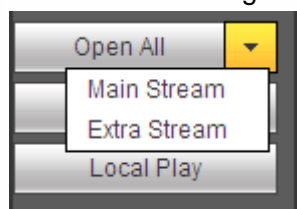

Figure 7-4
- Section 3: Open all. Open all button is to enable/disable all-channel real-time monitor. Here you can select main stream/sub stream too. See Figure 7-4.